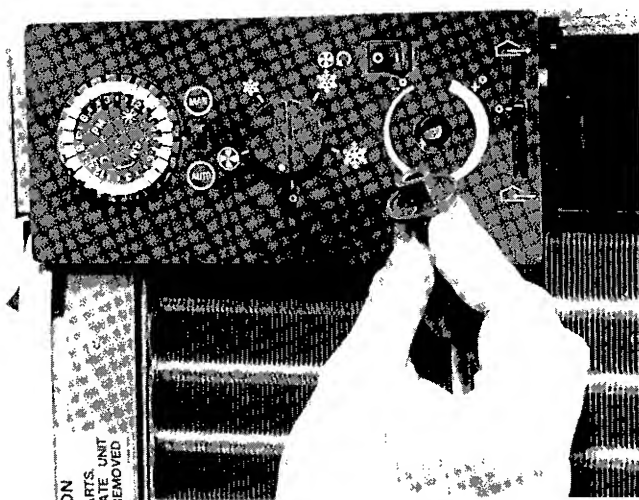

Fig. 10 — Removing Knobs
- c Remove control knobs by pulling off See Fig 10